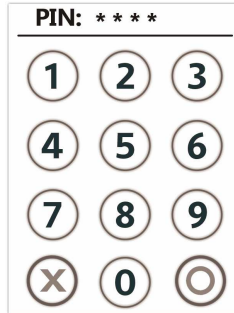

Figure 6
After inserting the chip card, Press the numeric key as below keypad (**Figure 6**) to enter the desirable numbers on touch panel.Press Cancel(X) key to terminate any current function and press the Enter(O) key to confirm a value or an option.